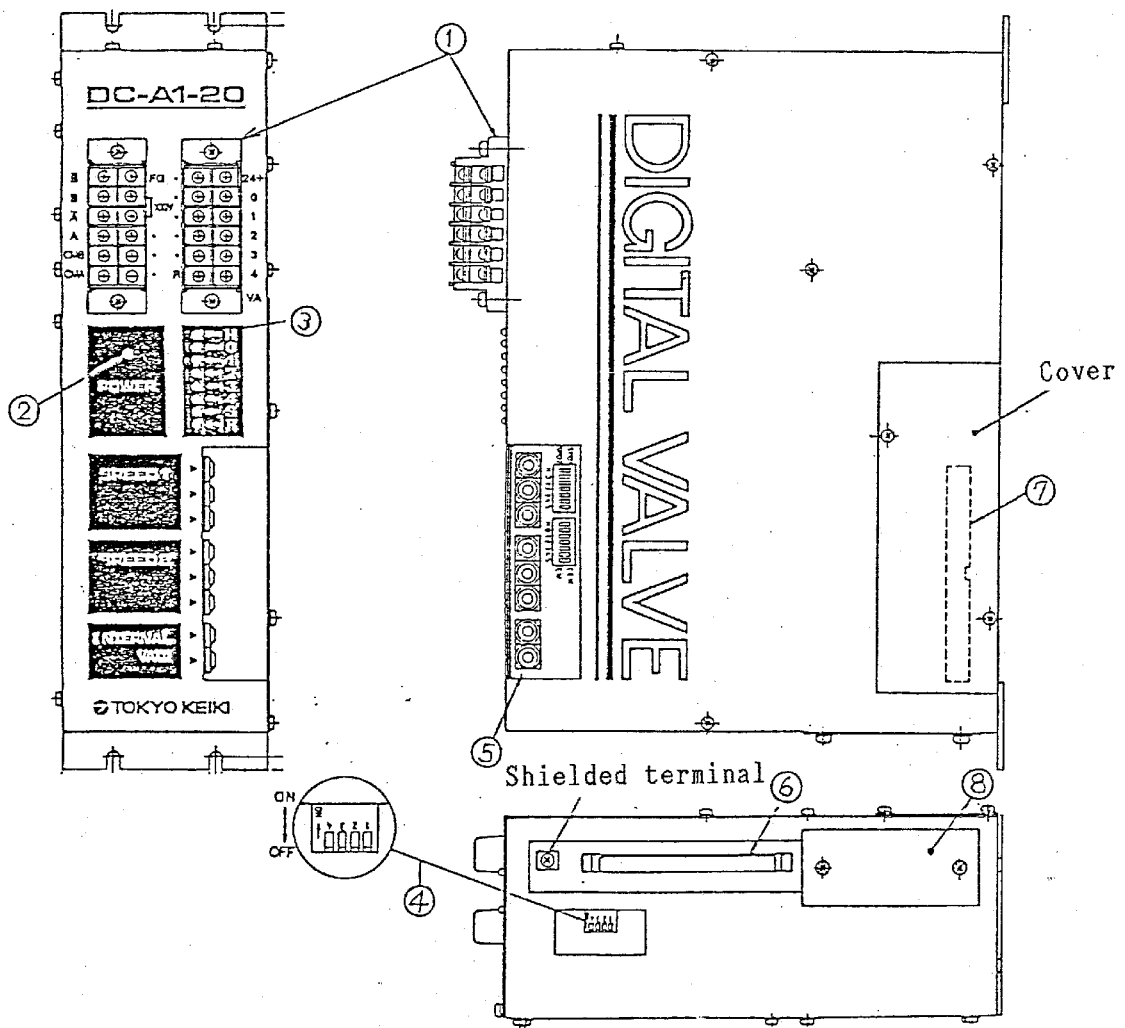

Fig. 1 Part Names
Figure 1 shows the part names of this product (DC-A1-20).
(See Fig. 1-④.) Set this switch corresponding to the type of a valve to be connected and the step setting condition as shown in Table 1.
The direction setting switch is a 7-contact slide switch on the front side panel. (See Fig.1-⑤.)
The SPEED 1 or SPEED 2 is set by rotary switches indicating a three-digit number each on the front panel to determine a pulse rate. (See Fig.1-⑤.)
This setting is enabled by only VA0\*. This setting is performed by a pair of rotary switches on the right side of the pulse rate setting switch indicating a two-digit number mentioned on the previous item. (INTERNAL [VA0] is indicated.) (See Fig.1-⑤.)